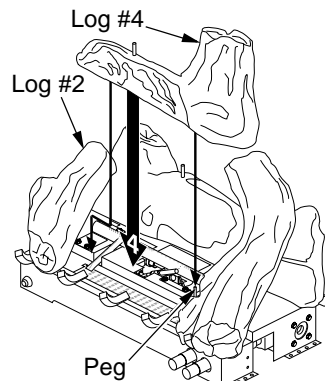
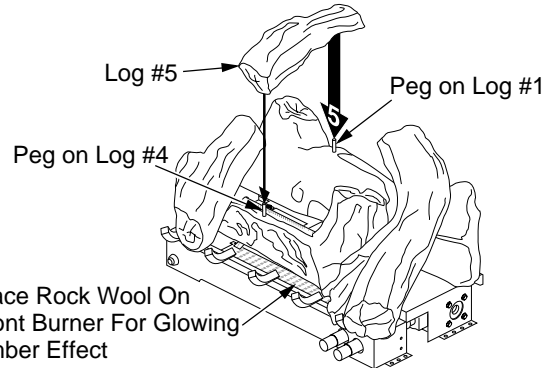

Figure 27 - Installing Front Log (#4)
Figure 28 - Installing Crossover Log (#5)
- Align holes in bottom of crossover log #5 with pegs on top of rear log (#1) and front log (#4) (see Figure 27). It may be necessary to adjust log #4 to align holes with pegs. Place crossover log onto pegs (see Figure 28).